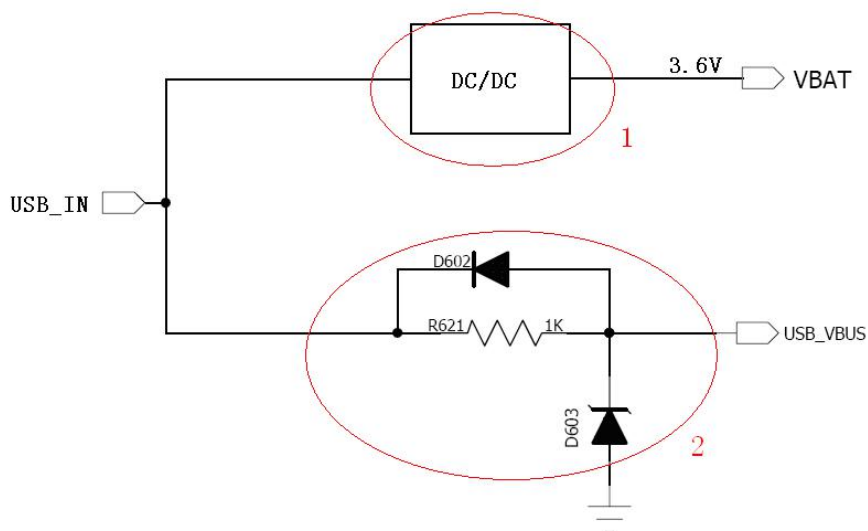

Figure2-8 The reference of voltage protection circuit
4) The USB interface input the voltage from USB\_IN .For keeping the USB in U9507E module working unfaillingly, a voltage protection circuit should be added by user between the USB\_IN of USB interface and the USB\_VBUS PIN of U9507E. It is shown in figure 2-8 with the red circle 2. In the voltage protection circuit, D603 is a Zener diode with a breakdown voltage value of 5.1v which could keep the voltage on the USB\_VBUS PIN of U9507E not more than 5.1v. D602 is a Schottky Diode, and R621 is a resistor with the value 1K  $\Omega$  . On the other hand the voltage coming from the USB\_IN also could be converted by using a DC/DC converter to 3.6v and then be sent to VBAT PIN of U9507E. It is shown in figure 2-8 with the red circle 1.
- 2) For avoiding the instantaneous voltage overflowing, the resistor with the reference value 22  $\Omega$  can be used for the DALA, CLK and RST. Just like the resistors R307, R308 and R309 in figure 2-8.
- 3) For avoiding the electro-static in USIM socket, it is recommended to use the ESD element to the DATA, CLK and VCC. Just like the voltage dependent resistors RV301, RV302, RV303 and RV304 in figure 2-8. And the ESD element should close to the USIM socket as close as possible.
C312 in figure 2-8, and their reference values are 33pF and 100nF.